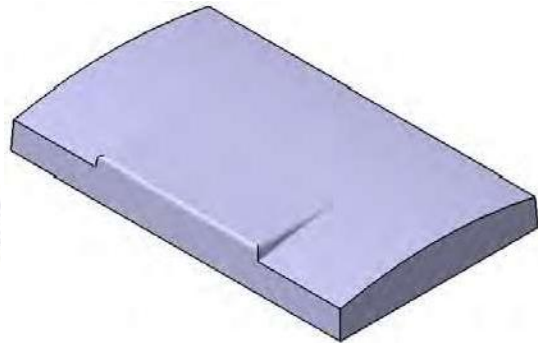

*Figure 5-95 Model after filleting the first set of edges*
3. Choose the **OK** button from the **Edge Fillet Definition** dialog box. The model, after filleting the first set of edges, is shown in Figure 5-95.